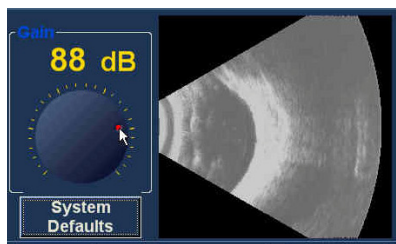

Figure 4.43 - Adjusting Gain
- Drag the knob until the dB level (and the image visual) reaches the appropriate level as shown in Figure 4.43.